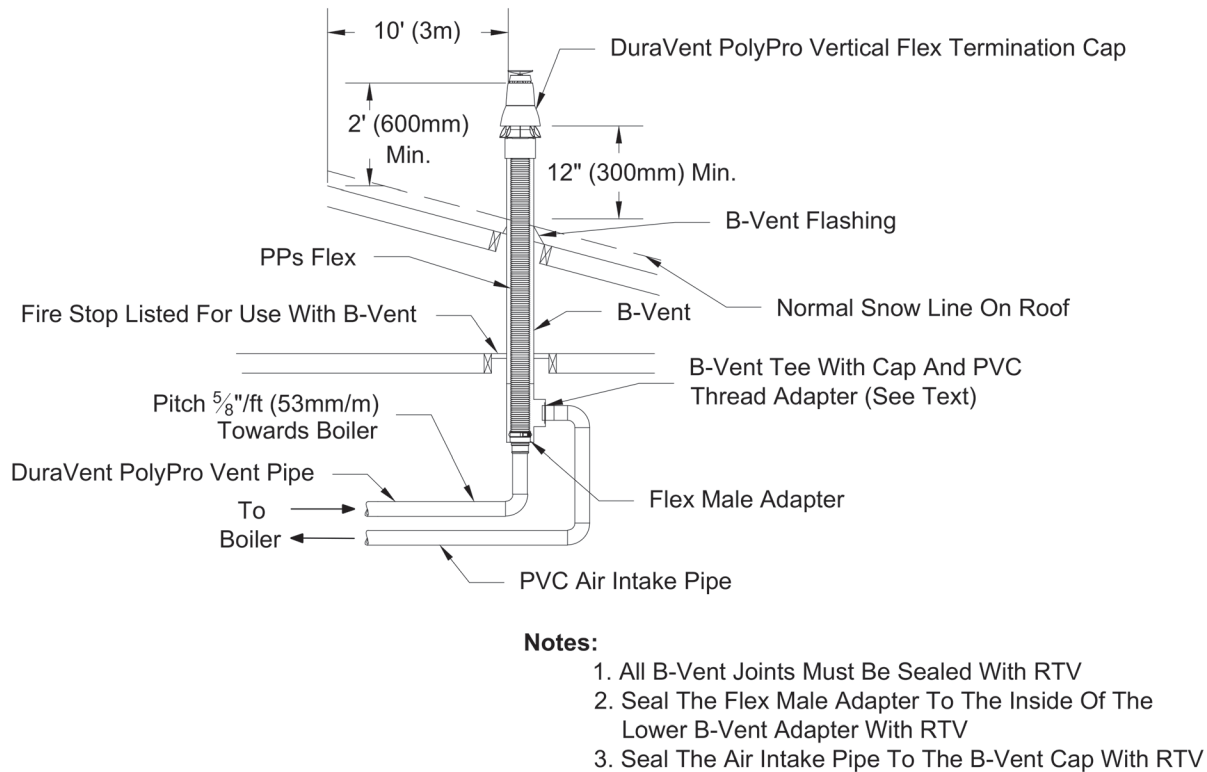

Figure 7.19: DuraVent PolyPro B-Vent Air Chase System (Vent Options #18 & 19)
3. Requirements for B-Vent Air Chase Options – Observe the following additional requirements when using an abandoned B-vent chimney as an air chase as described in Options #18-21. Also refer to Figures 7.19 & 7.20.
Example: A 320MBH model is to be installed as using Vent Option 18 as shown in Figure 7.19. The following components are used: